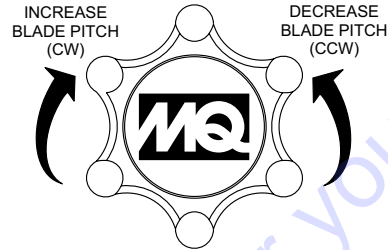

Figure 5. Blade Pitch Star wheel
1. Expose the pitch cable to maximum by turning the blade pitch star wheel (Figure 5) fully counterclockwise for no pitch (blades flat).